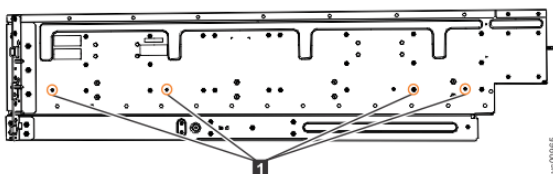

Figure 47. Screw locations to attach the inner rail to the enclosure
4. Use four M4 screws to attach the inner rail to the side of the enclosure. Figure 47 on page 82 shows the screw locations.